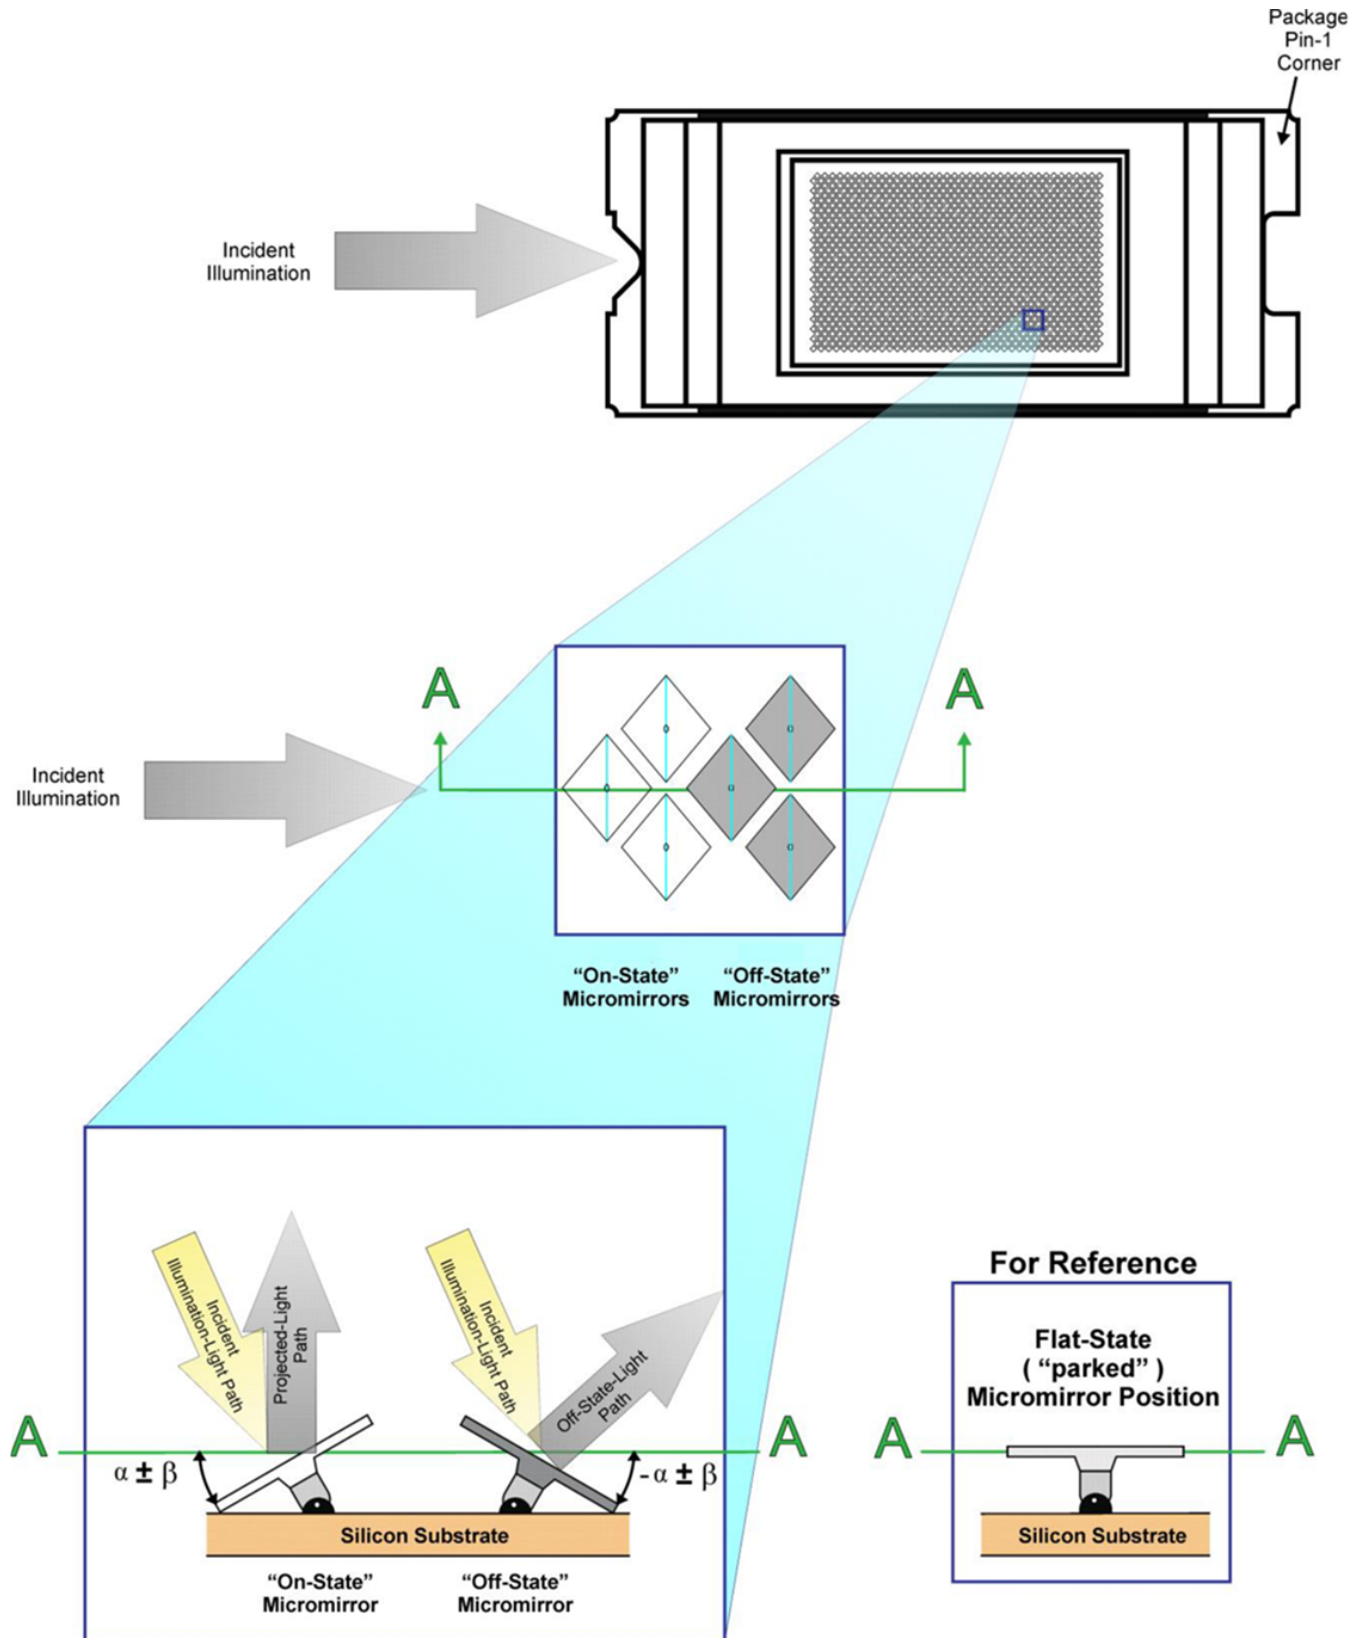

Figure 7. Micromirror Landed Positions and Light Paths
- (1) Measured relative to the plane formed by the overall micromirror array.
- (2) *Parking* the micromirror array returns all of the micromirrors to a relatively flat (0°) state (as measured relative to the plane formed by the overall micromirror array).
- (3) When the micromirror array is *parked*, the tilt angle of each individual micromirror is uncontrolled.
- (4) See Figure 7.
- (5) Additional variation exists between the micromirror array and the package datums.
- (6) When the micromirror array is *landed*, the tilt angle of each individual micromirror is dictated by the binary contents of the CMOS memory cell associated with each individual micromirror. A binary value of 1 results in a micromirror *landing* in an nominal angular position of +12°. A binary value of 0 results in a micromirror *landing* in an nominal angular position of –12°.
- (7) Represents the *landed* tilt angle variation relative to the nominal *landed* tilt angle
- (8) Represents the variation that can occur between any two individual micromirrors, located on the same device or located on different devices.
- (9) For some applications, it is critical to account for the micromirror tilt angle variation in the overall system optical design. With some system optical designs, the micromirror tilt angle variation within a device may result in perceivable non-uniformities in the light field reflected from the micromirror array. With some system optical designs, the micromirror tilt angle variation between devices may result in colorimetry variations or system contrast variations.
- (10) Micromirror crossover time is primarily a function of the natural response time of the micromirrors.
- (11) Performance as measured at the start of life.
- (12) Non-operating micromirror is defined as a micromirror that is unable to transition nominally from the –12° position to +12° or vice versa.
- (13) Measured relative to the package datums B and C, shown in the Package Mechanical Data section in 机械、封装和可订购信息.
- (14) The nominal DMD total optical efficiency results from the following four components:
Each micromirror is switchable between two discrete angular positions: -12° and 12° . The angular positions α and β are measured relative to a 0° flat reference when the mirrors are parked in their inactive state, parallel to the array plane (see Figure 7). The parked position is not a latched position. Individual micromirror angular positions are relatively flat, but do vary. The tilt direction is perpendicular to the hinge-axis. The on-state landed position is directed toward the left side of the package (see Figure 7).